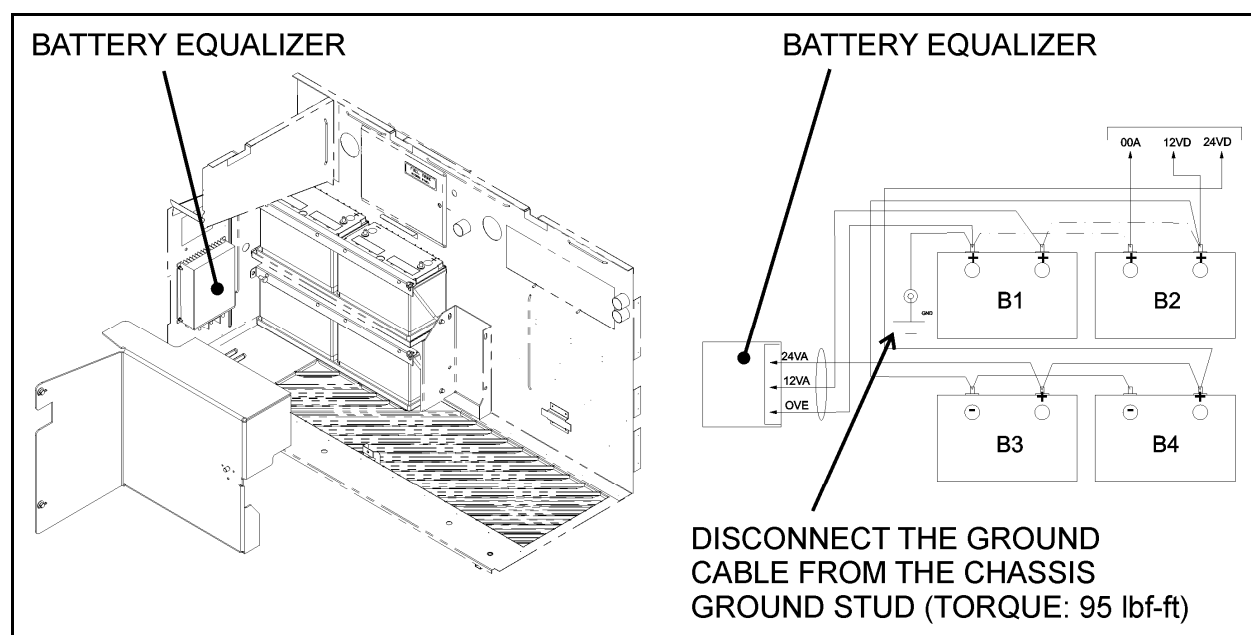

FIGURE 1: BATTERY EQUALIZER INSIDE CONDENSER COMPARTMENT
1. Inside the condenser compartment, locate the Sure Power battery equalizer under the battery cover (figure 1).
3. Disconnect the battery banks ground cable from the chassis ground stud (figure 1).